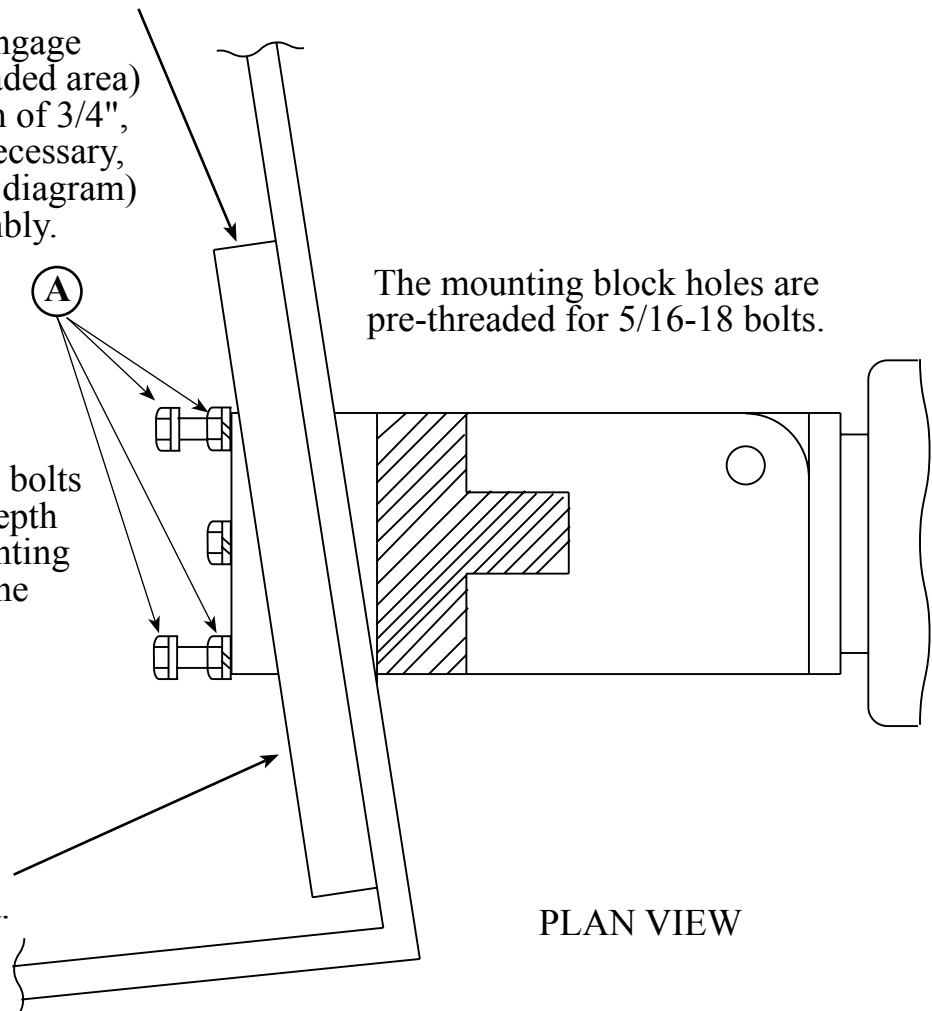

Figure 2. Mounting Bar
1. Measure and mark mounting location for drilling mounting holes. (Refer to Figure 2.)